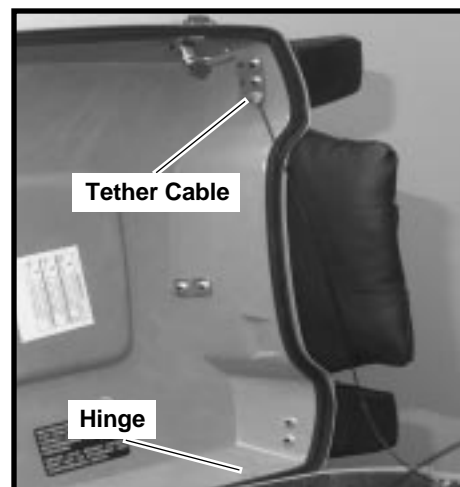

Figure 1.
1. Refer to applicable Service Manual and remove Tour-Pak lid hinge pins and tether cable (Figure 1). Place lid upside down on a surface that will provide suitable paint protection.